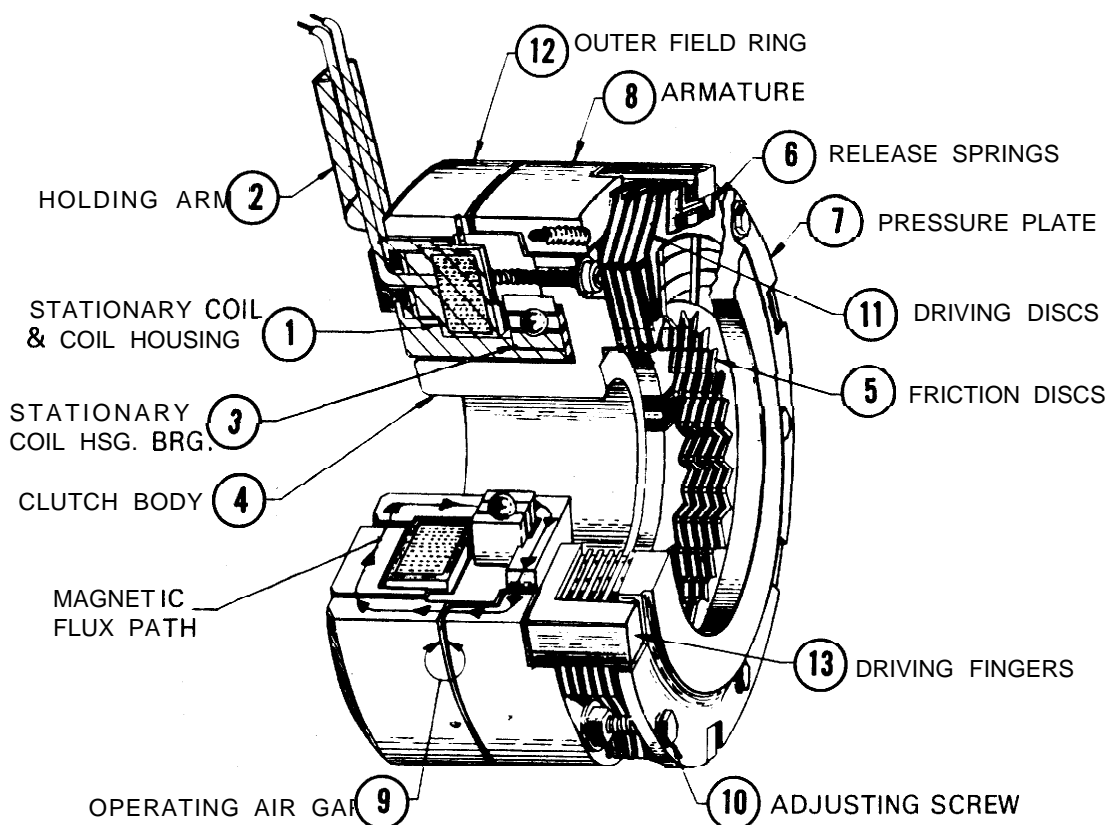

Figure 1A - Airflex Magnetic Clutch
To be more specific, refer to Figure 1A. The cross sectioned portion of the clutch [stationary coil and coil housing (1), holding arm (2) and the inner race of the coil housing bearing (3)] are stationary at all times. The clutch body (4) is keyed to the input member and rotates with it. Rotation of the clutch body causes rotation of all parts of the clutch except the friction discs (5) (when the coil is de-energized).
The Coil Housing is made of high quality magnetic iron and the coil is secured in the housing by means of a high temperature, high strength epoxy adhesive. As seen in Figure 1A, the coil housing forms part of magnetic-flux path.
The Outer Field Ring is made of high quality magnetic iron and forms part of the magnetic-flux path as shown in Figure 1A.